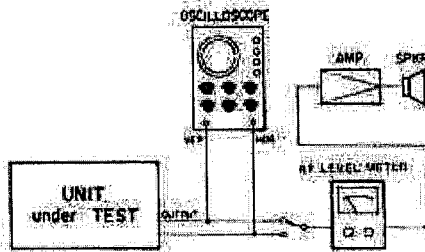

Fig. 9-5-6: Head Azimuth Test Set-Up
3. Connect an AF level meter to the OUTPUT connector as shown in Fig. 9-5-6.